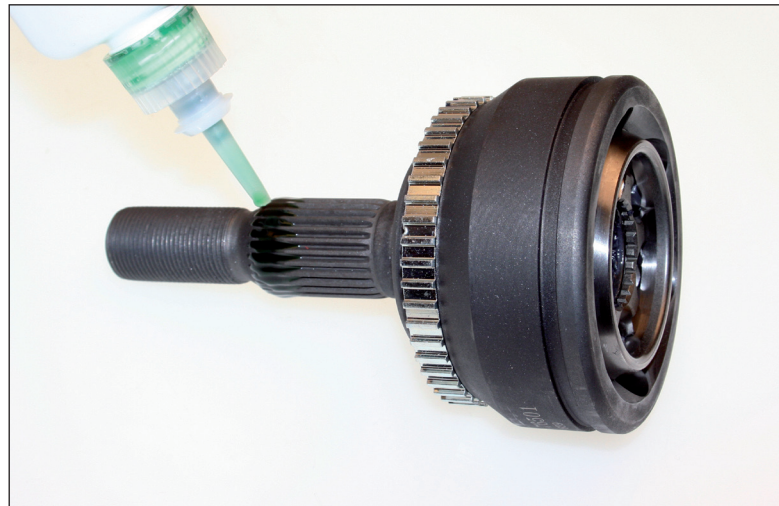

Fig. 1
- Apply a **3-4 mm** bead of the loctite around the outer edge of the straight spline (see **fig. 1**).